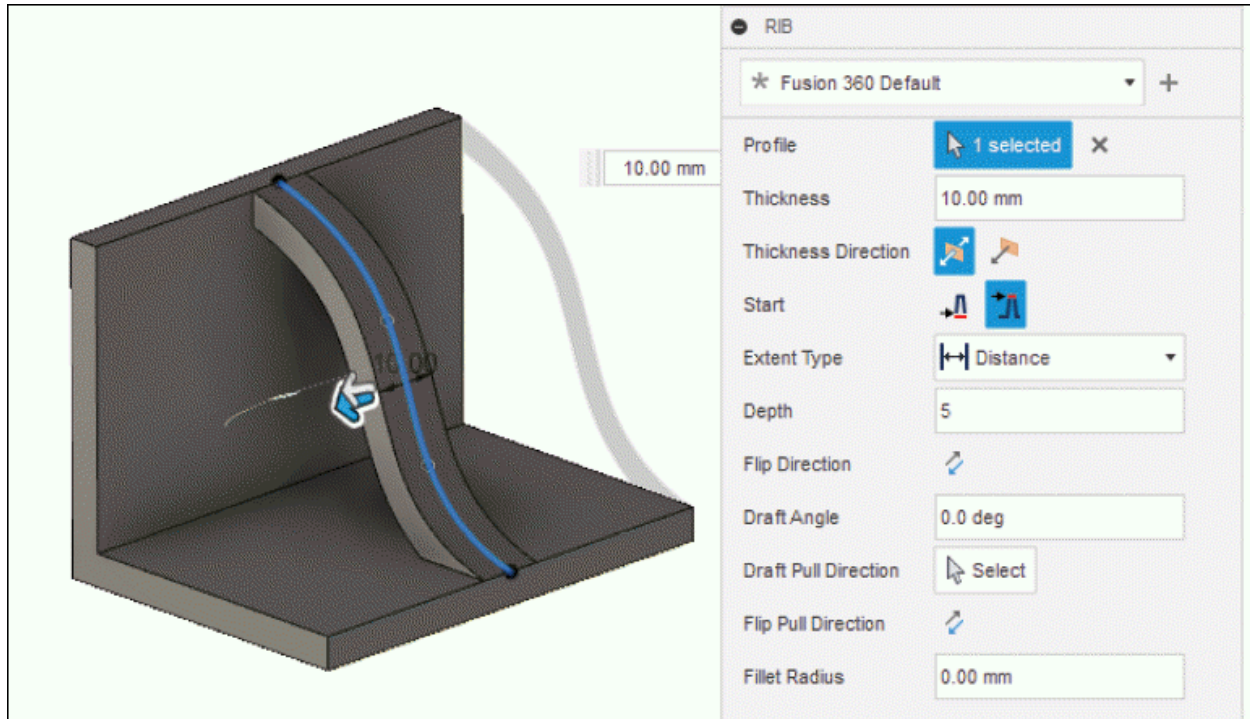

Figure-29. Updated RIB dialog box
- Select the sketch curve as profile to create rib. The updated **RIB** dialog box will be displayed; refer to Figure-29.